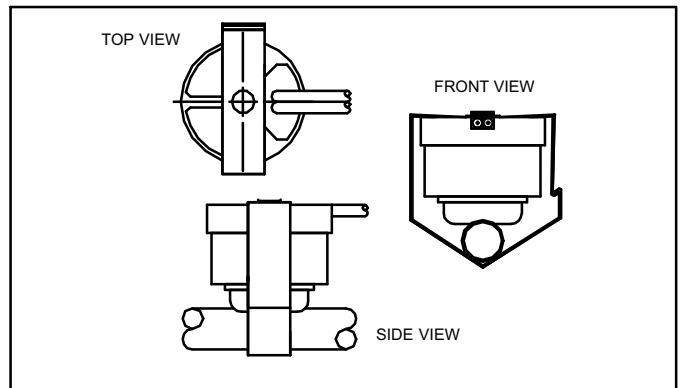
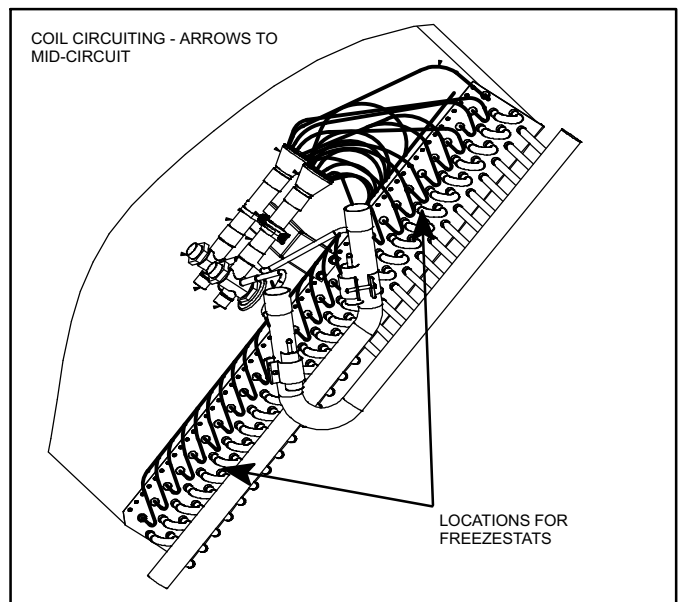

Figure 1. S49/S50 Freezestats
Figure 2. Freezestat Mounting Locations
3. Attach one freezestat as illustrated in figure 1 to each refrigerant circuit. Locate freezestat on evaporator coil piping, somewhere near the mid-point of the circuit as illustrated in figure 2.